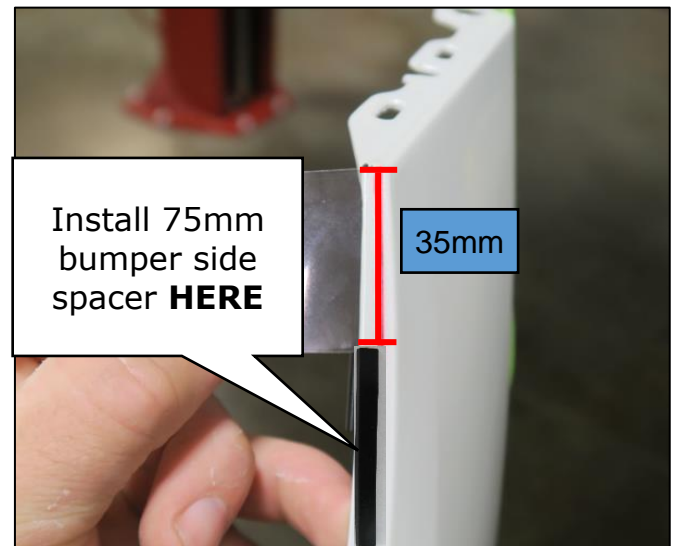

Figure 35
32. Install the 75 mm rubber bumper side spacer to the RH side of the front bumper. (Figure 35)